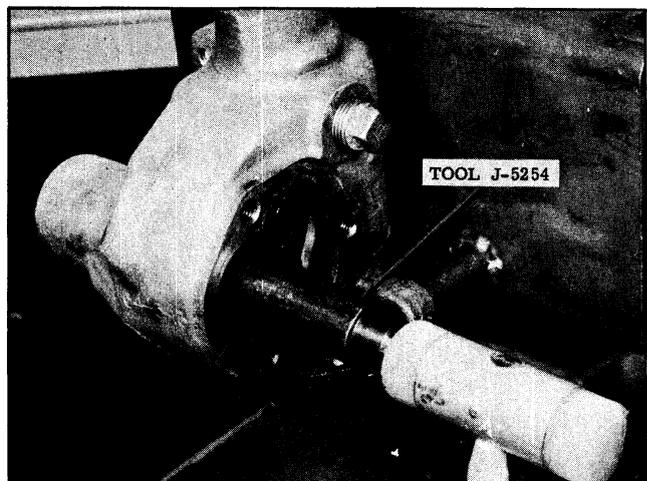

Fig. 5-10 Removing Bearing From Housing
- Use Tool J-5254 to drive bearing and seal from housing as shown in Fig. 5-10.